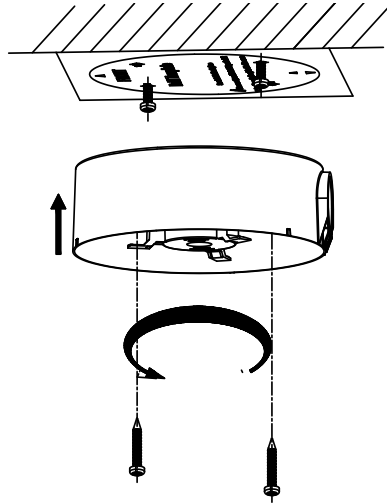

Figure 2-21 Fix the Gang Box
4. Attach the gang box to the ceiling and secure it by aligning the holes with 2 screws and rotating the gang box according to the direction of Figure 2-21. Make sure the front arrows on the drill template and gang box should be aligned together as well.